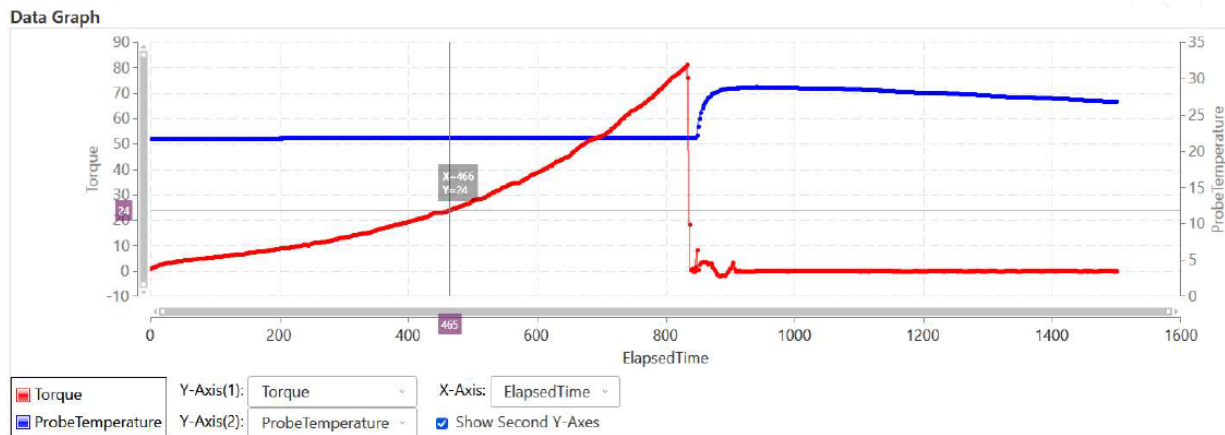

Figure 2: Cursor crosshairs set to “Sunshine gel time equivalent” torque, 24%. The corresponding gel time, in this case, is 466 s.
- The gel time equivalent to the Sunshine gel time is 466 seconds (Figure 2).